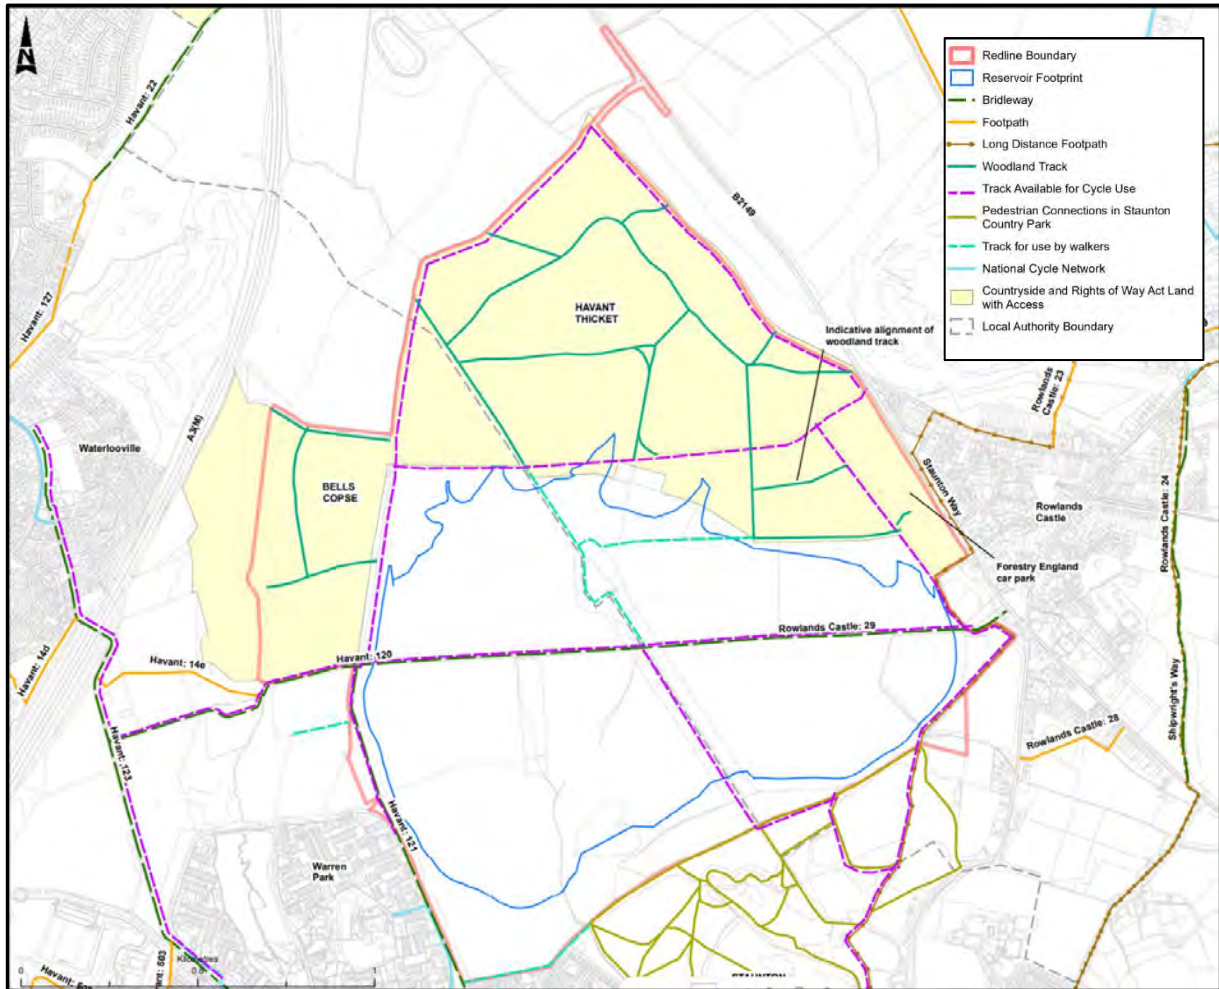

Figure 2: Site Access
- 4.2.3 Public Rights of Way are located adjacent to the site shown in Figure 2. At times when construction work is proceeding with artificial lighting the users of rights of way are likely to be carrying a torch and construction lighting would not be a nuisance.